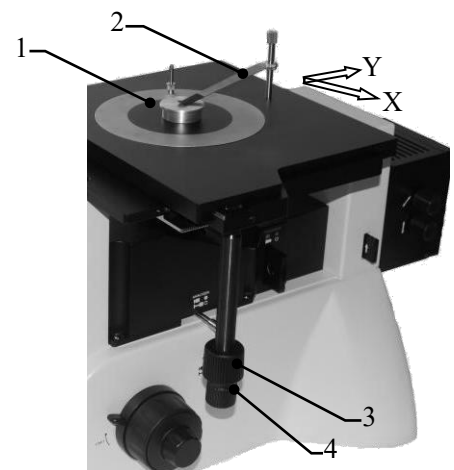

Fig.10
Place the metallurgical specimen or sample on the stage and pin it with spring clip 2, pay attention to the press that can press out the specimen or sample, no make the stage deformation. Turn the control knob 3 and 4 to adjust the stage longitudinal (Y) and transverse (X) movement, make the specimen or sample observation area located top the objective, as shown in Fig. 10.